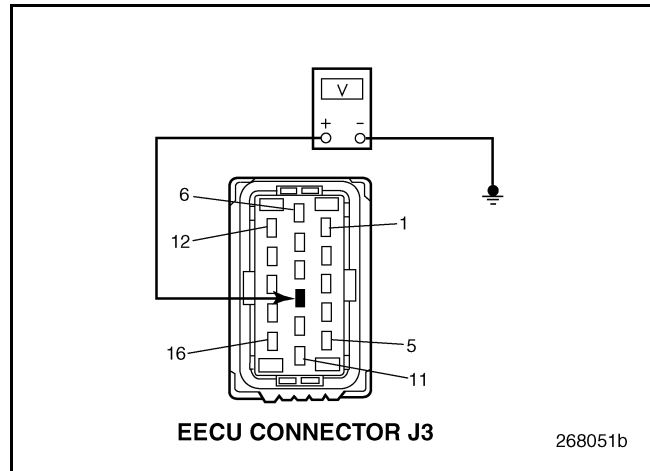

Figure 752
4. Measure the voltage between EECU connector J3 pin 9 and a good ground (see Figure 752).